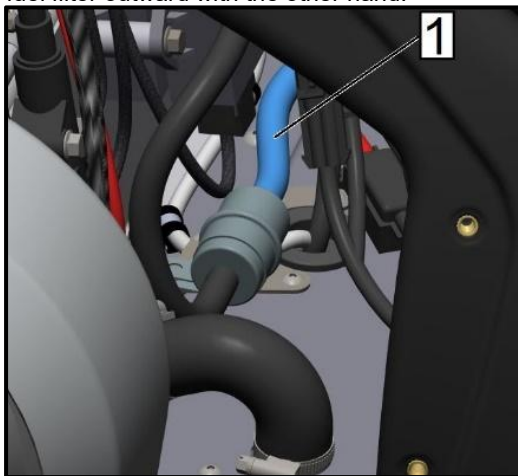

Fig.18
10. Remove the fuel hose (Pos.1, Fig. 18) connecting the fuel module and filter from the filter connector. Hold the hose (Fig. 1, Fig. 18) with one hand and move the fuel filter outward with the other hand.